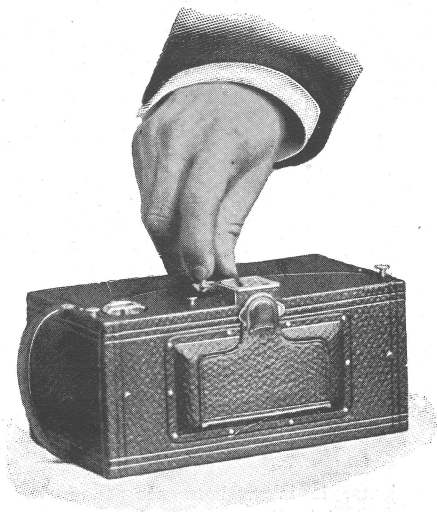

Fig. 1.
1. Pull open the flap that covers the lens in order to ascertain in which direction the lens is pointing. (The flap may be closed again while the shutter is being set—Fig. 1.—unless you are about to make an exposure.)